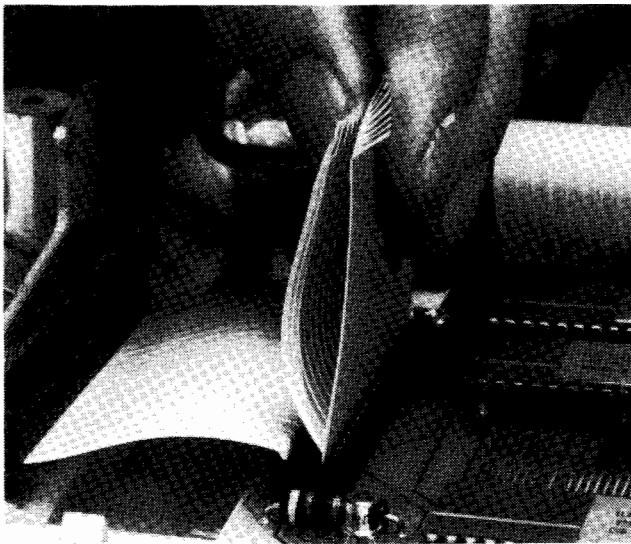

Figure 3-6. Removing Trapped Cable
- a. Insert a spare cable of the same width into the connector between the trapped cable and the connector contacts. (See figure 3-6.) The contacts of the spare cable should face the contacts of the trapped cable, not the contacts of the connector.